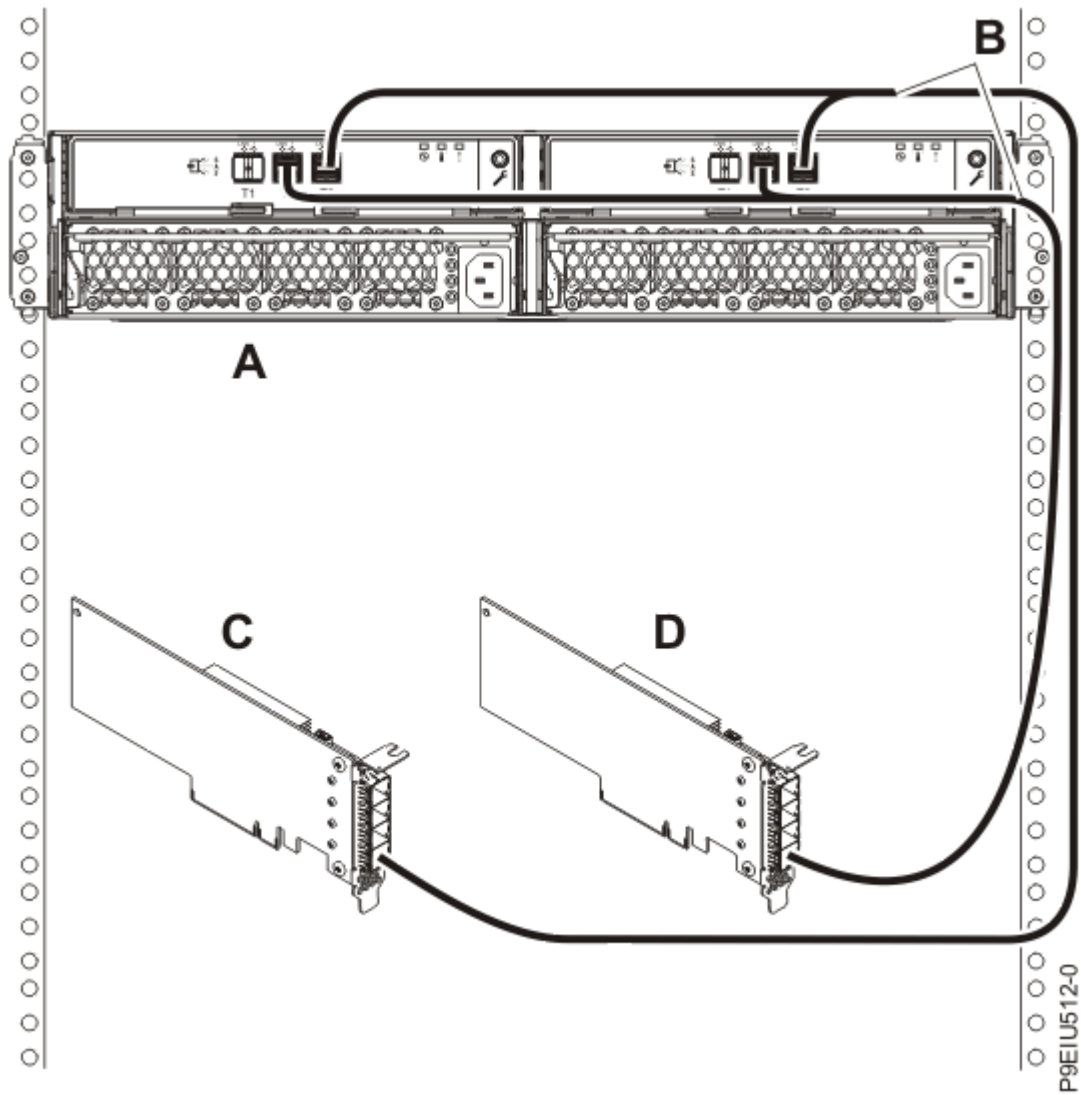

Figure 18. Mode 2 connection of one ESLL or ESLS storage enclosure by using YO12 cables to two independent FC EJ0J, FC EJ0K, or FC EJ0M SAS adapters
18. Complete a mode 2 connection of one enclosure (A) by using YO12 cables (B) to two independent FC EJ0J, FC EJ0K, or FC EJ0M SAS adapters (C and D), as shown in Figure 18 on page 23. Then, continue with “Connecting cables, power cords, and installing covers” on page 29.